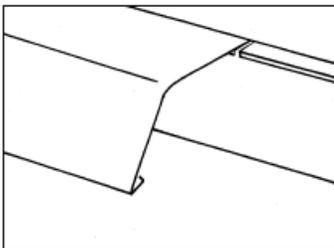

Figure 7
- 4) Angle cut the inside or starter side leg of the lineal slightly (about $\frac{1}{4}$ "). Trim foam back accordingly. (Figure 7)